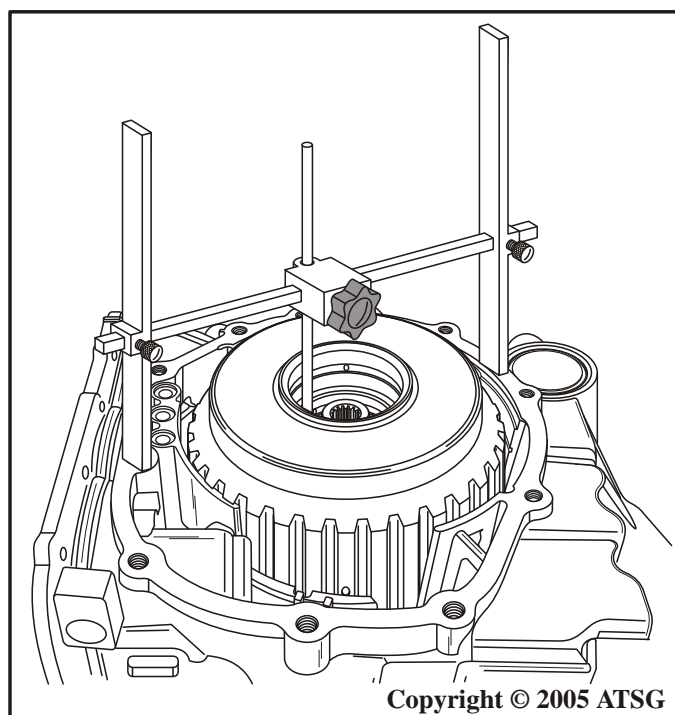
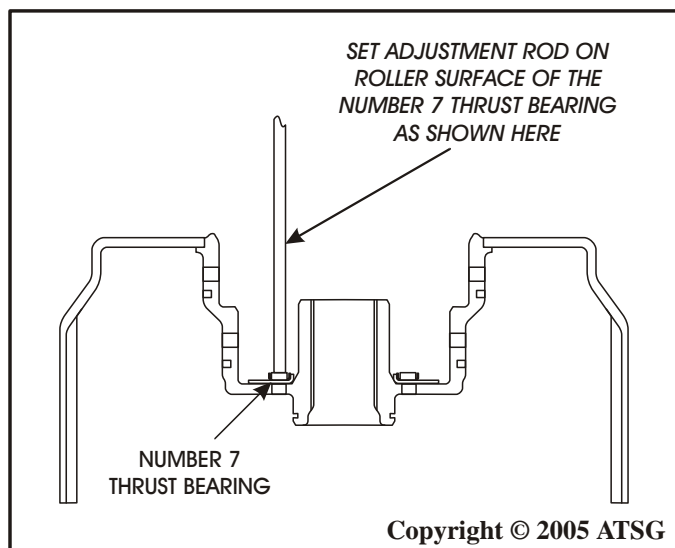

Figure 185
Figure 186
67. Install "H" gage on transaxle case, as shown in Figure 185, and set adjustment rod on roller surface of the number 7 bearing, as shown in Figure 186.
69. Adjustment rod **must** be on the roller surface of the bearing, as shown in Figure 186.